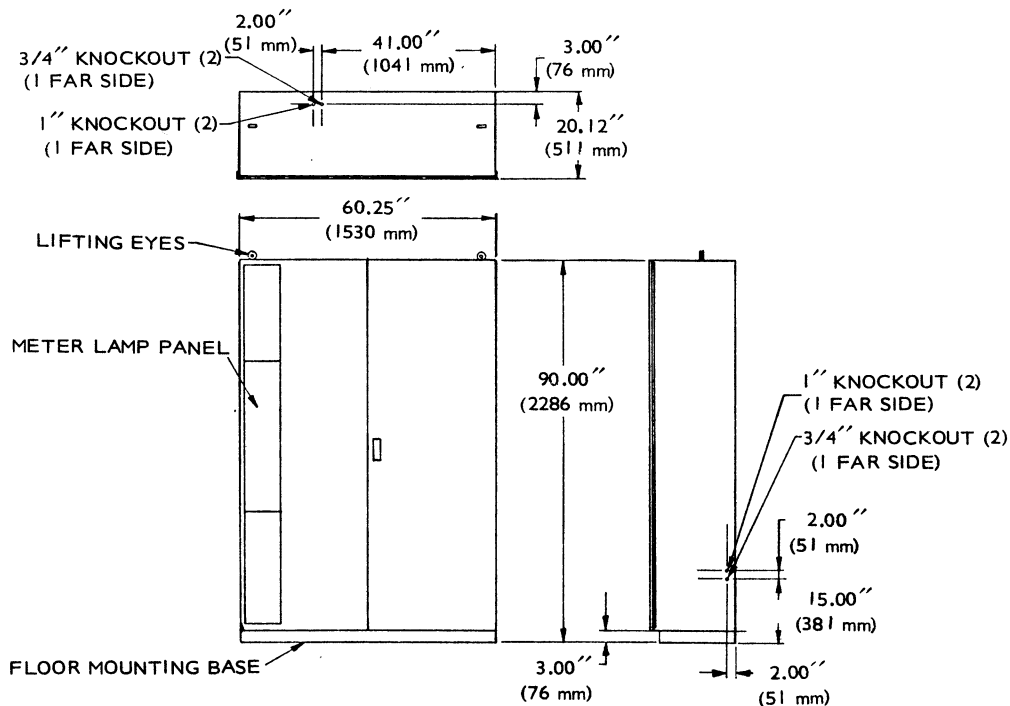

FIGURE 2. "AT" CABINET DIMENSIONS
1. Carefully remove the crating top and sides around the automatic transfer switch cabinet. Figure 2 gives dimensions of the cabinets.